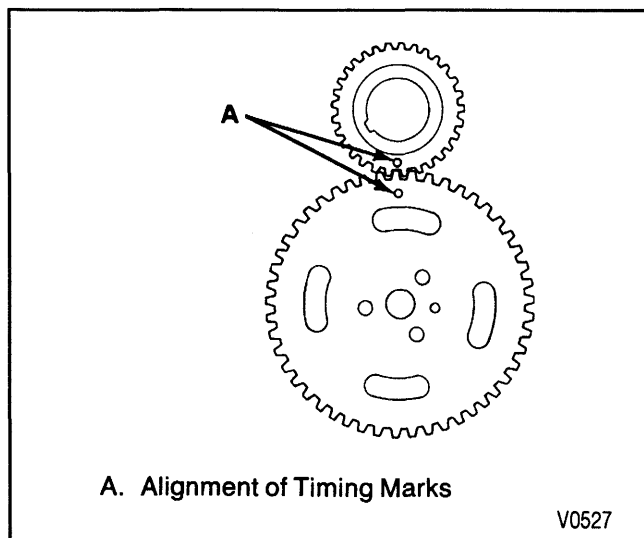

Figure 36—Balance Shaft Timing Marks
6. Turn the camshaft so, with the balance shaft drive gear temporarily installed, its timing mark is straight up (figure 36).
7. With the balance shaft drive gear removed, turn the balance shaft so the timing mark on the driven gear points straight down (figure 36).
- Make sure that the timing marks on the balance shaft drive gear and the driven gear line up dot to dot (figure 36).